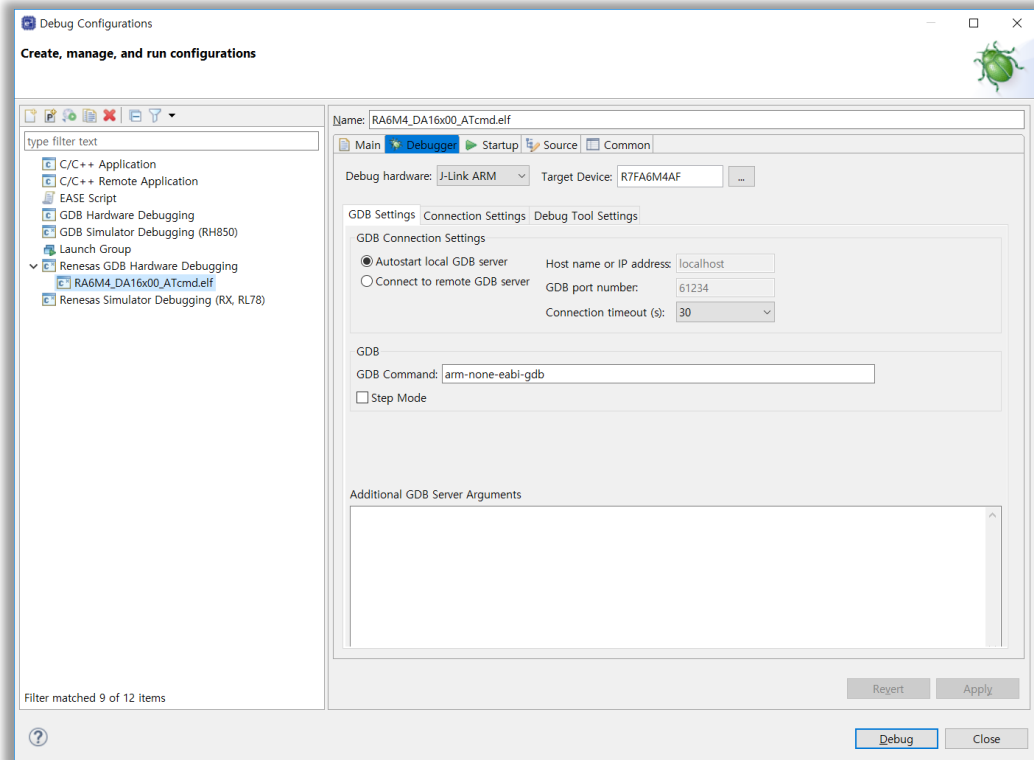

Figure 54: Set Debug Configurations
7. Change the configuration as shown in Figure 54 and then select the **Apply** and **Debug** buttons.